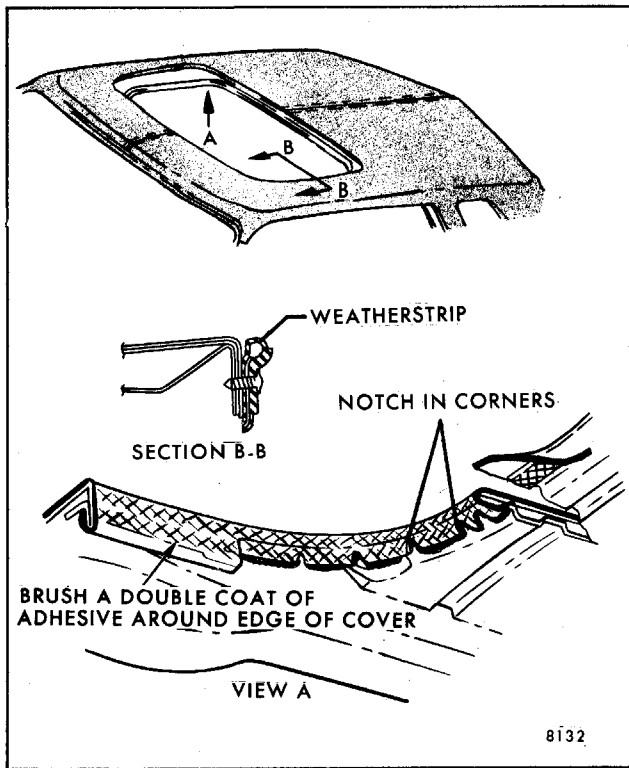

Fig. 8-37-Fabric Roof Cover Installation - Sun Roof Option
18. On sun roof (Fig. 8-37) or vista vent option, trim and cement cover in roof opening. Also, on sun roof option, replace previously removed tape along rear of opening.